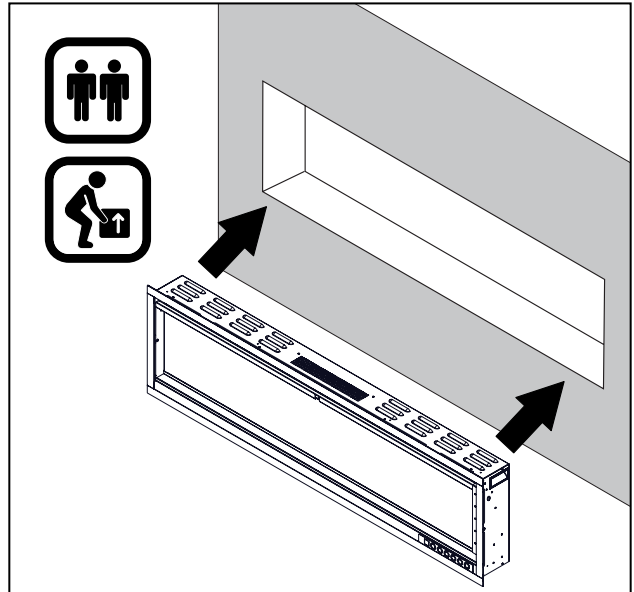

Fig 6
STEP 3: With two people, lift the unit into the framed wall (**Fig 6**).